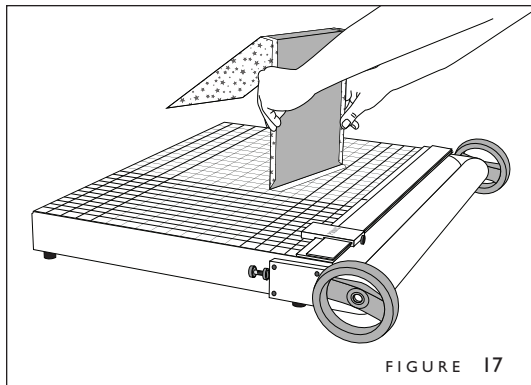

FIGURE 17
13. Firmly push down and rock the short edge of the cover to fold and attach the wrap to the edge of the Hardcover (Figure 17).